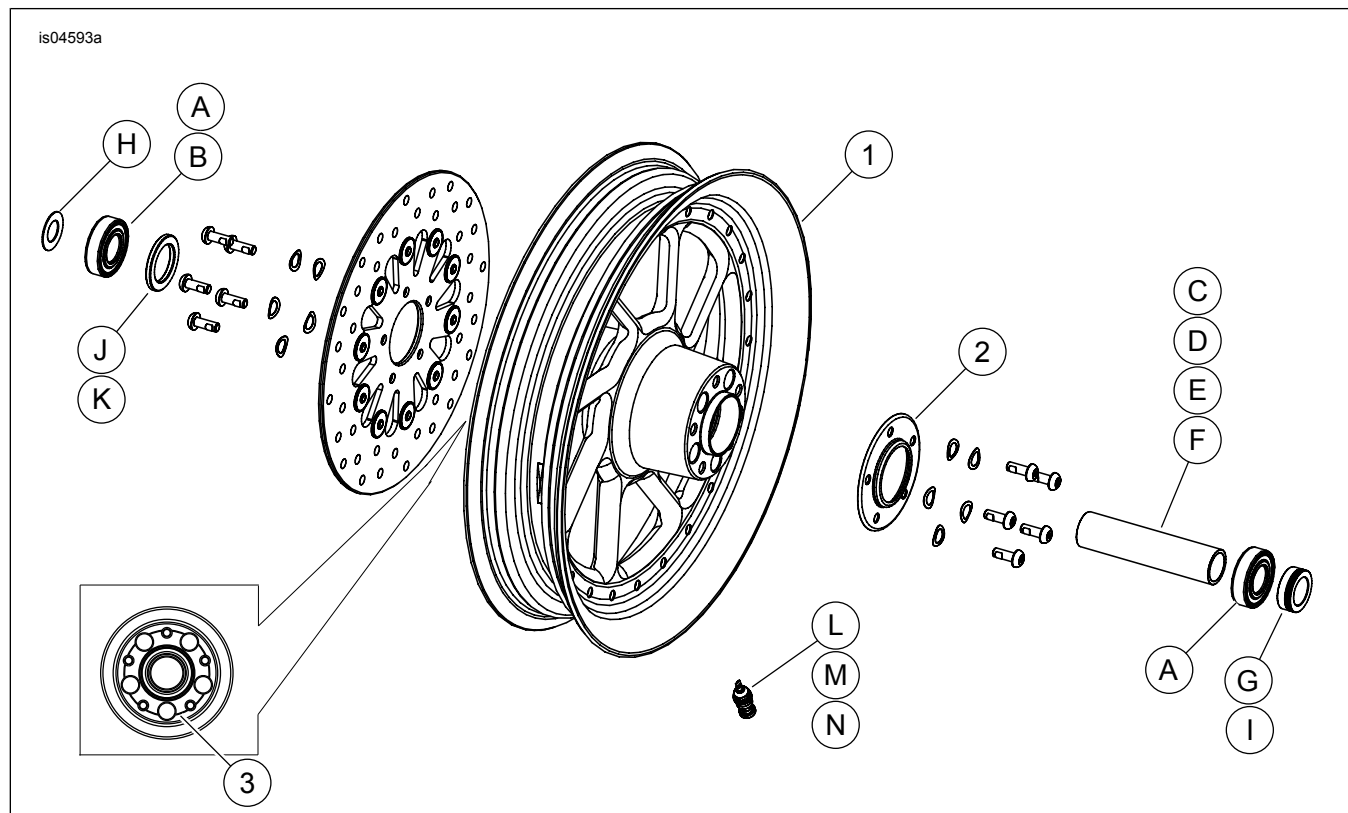

Figure 2. Service Parts: Front Road Winder Wheel (16-inch wheel shown)
2. See Figure 2. Install valve stem assembly (L, M or N) on wheel. Refer to TIRES in service manual.